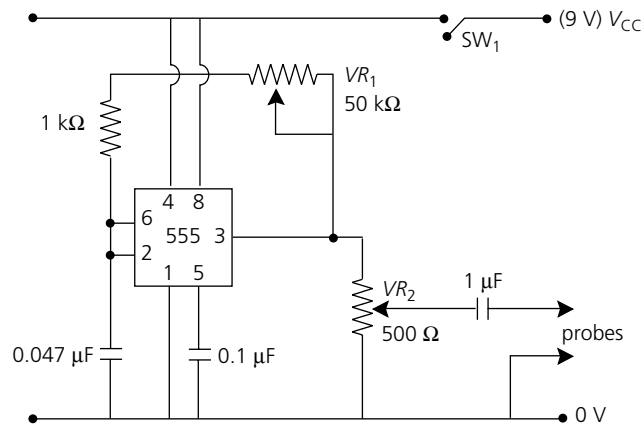

Figure 24.30
- ***29 The circuit of Figure 24.30 contains a 555 timer IC chip and is described as a digital signal injector for testing audio circuits. Describe how this circuit works and determine its likely output frequency range. What is the likely function of the circuit components VR_1 and VR_2 ? How could the circuit be used as a piece of test equipment in an audio laboratory?